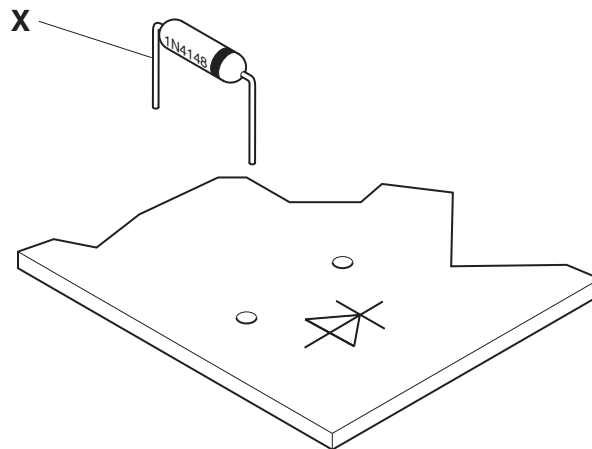

Fig. 3
- (i) On Fig. 3 mark the correct hole for leg X.